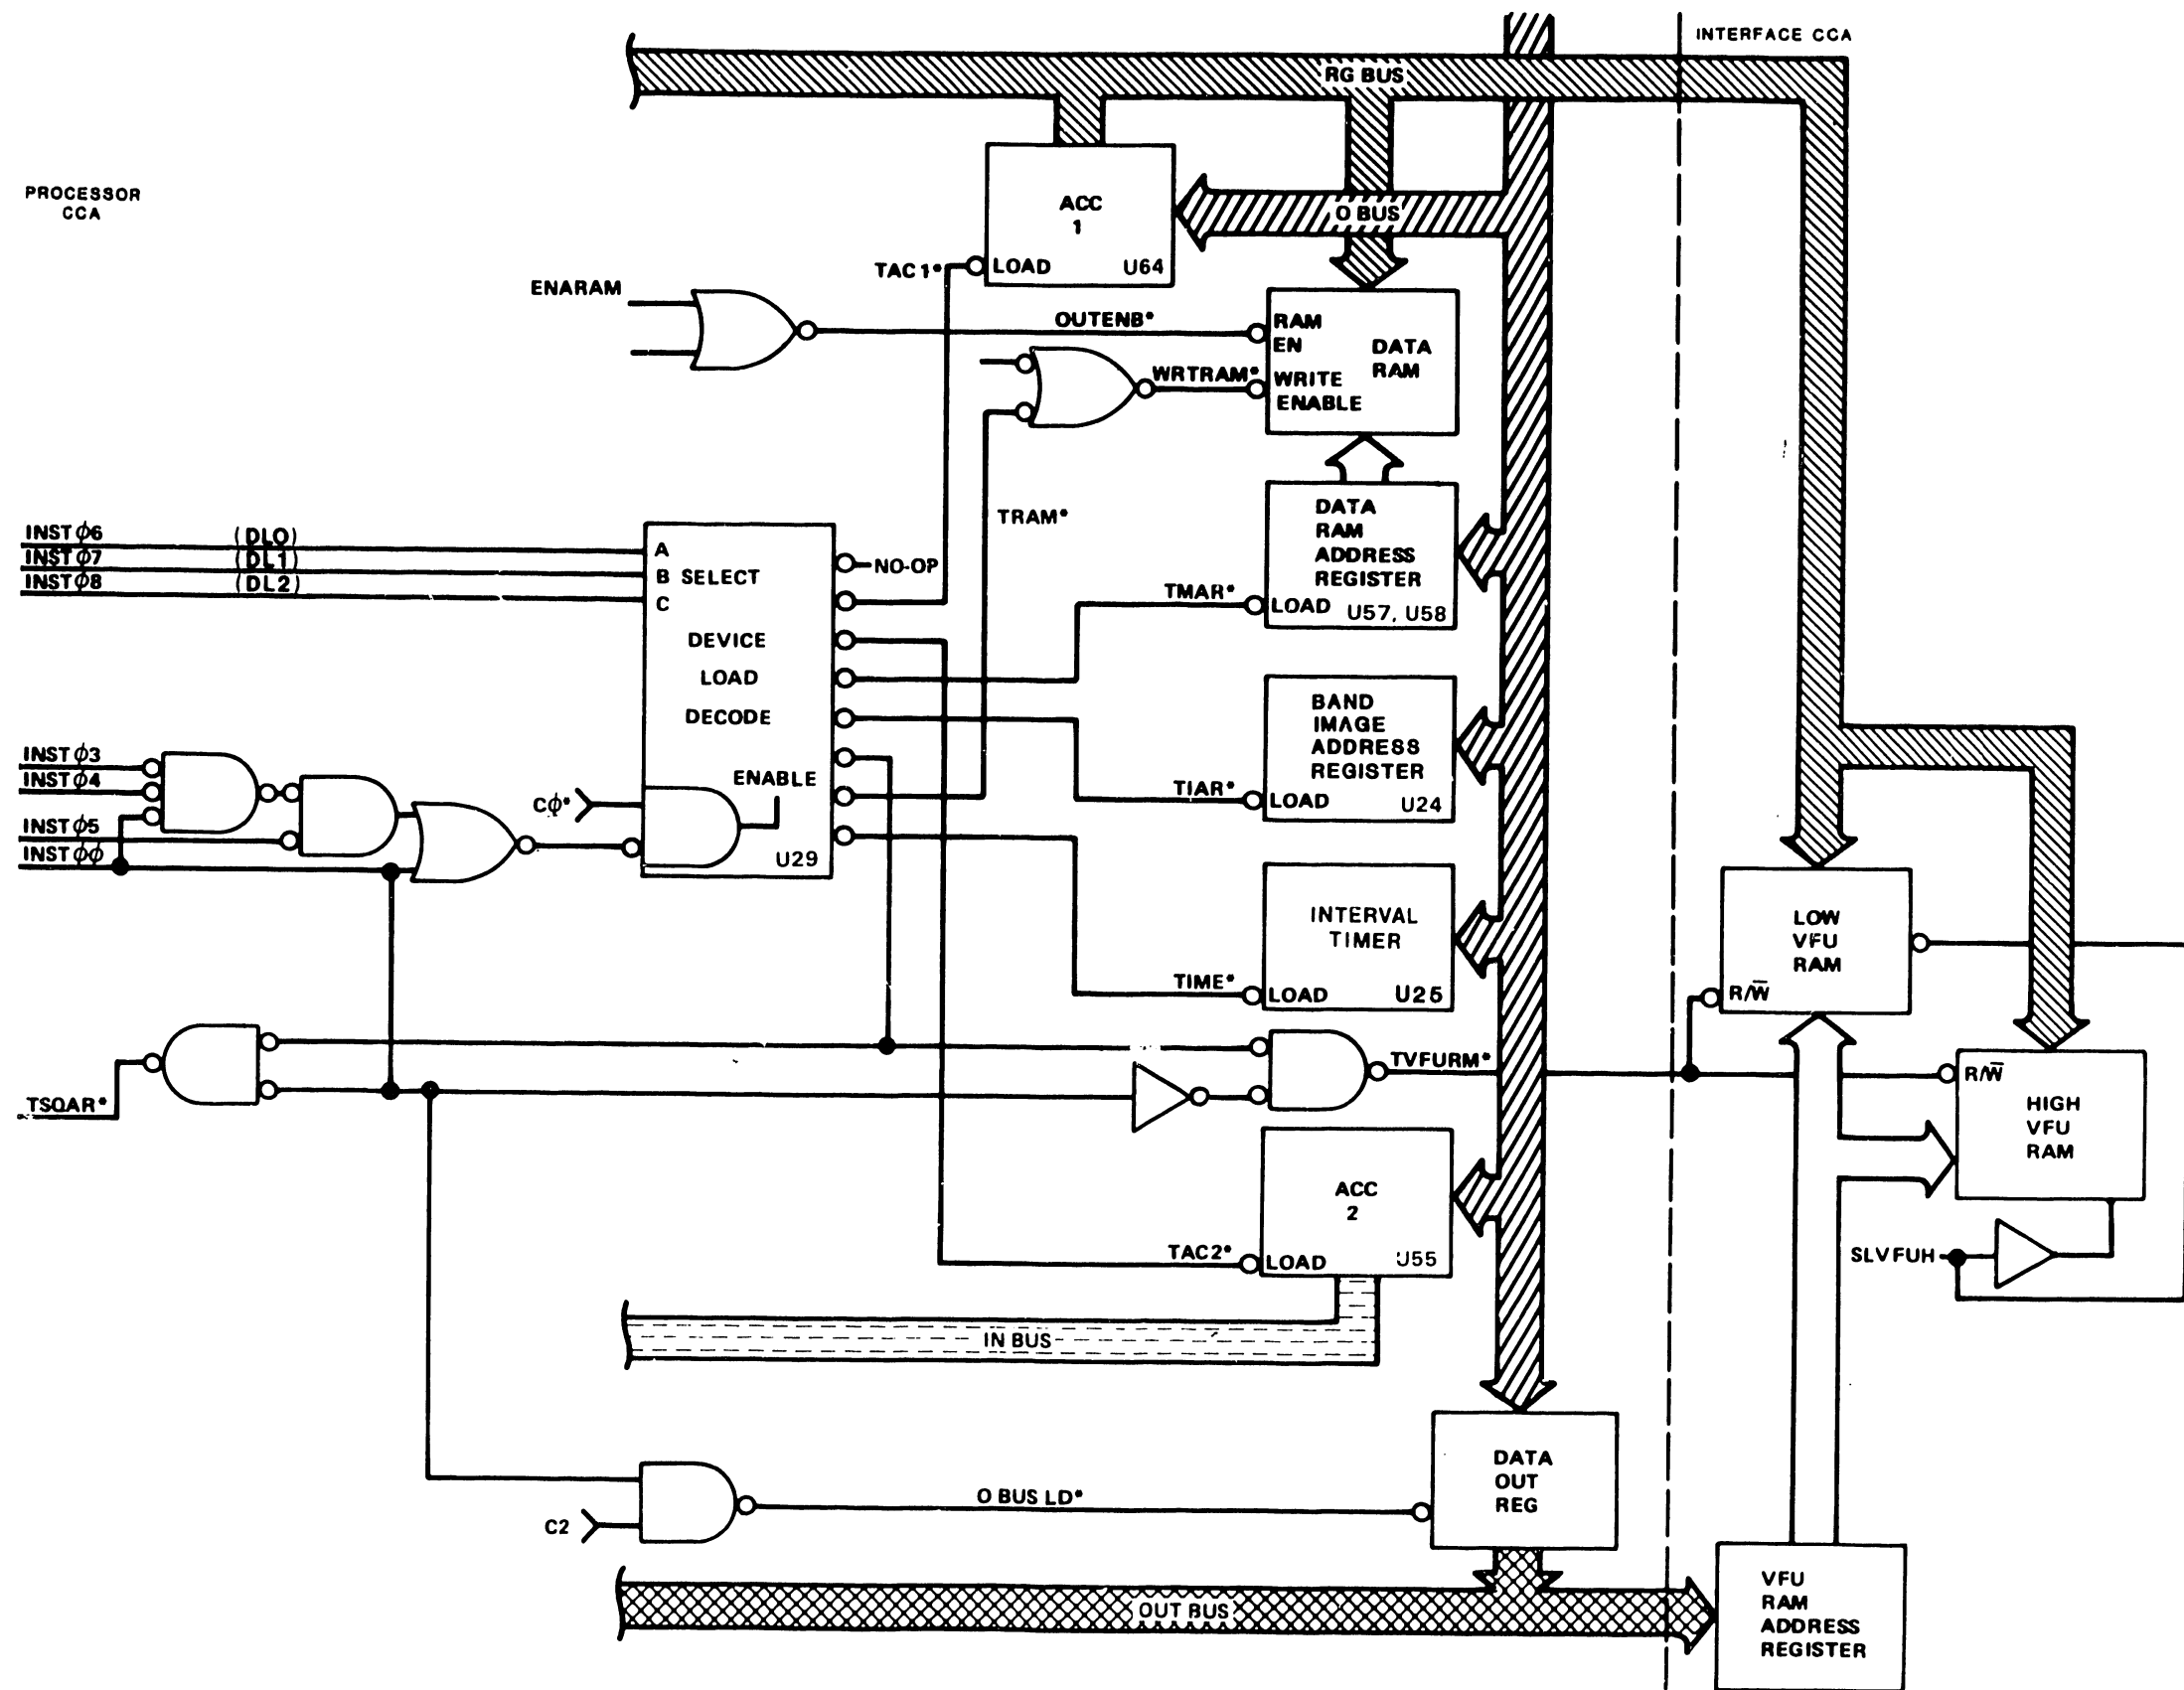

Figure 2-36. Device Loading Network
(c) Device Load Network - The Device Load Network specifies the device into which data from an ALU operation should be stored. Table 2-27 lists the devices and their reference designations. Demultiplexer U29 (SH 29) decodes select inputs INST06, INST07, and INST08. The gating of instructions INST00, INST03, INST04, and INST05 provides one (1) enable input at pin 5. A second enable, C0*, is the first phase of the three-phase system clock generator U14. The third enable input at pin 4 is tied low. Figure 2-36 provides a block diagram of the Device Load Network.